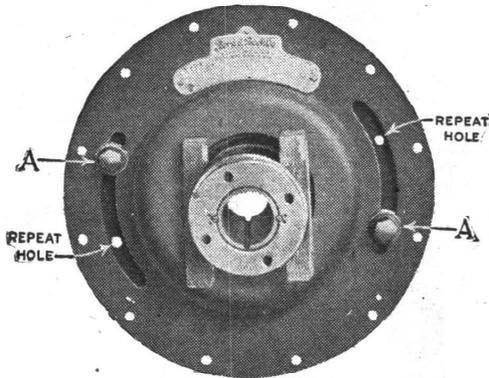
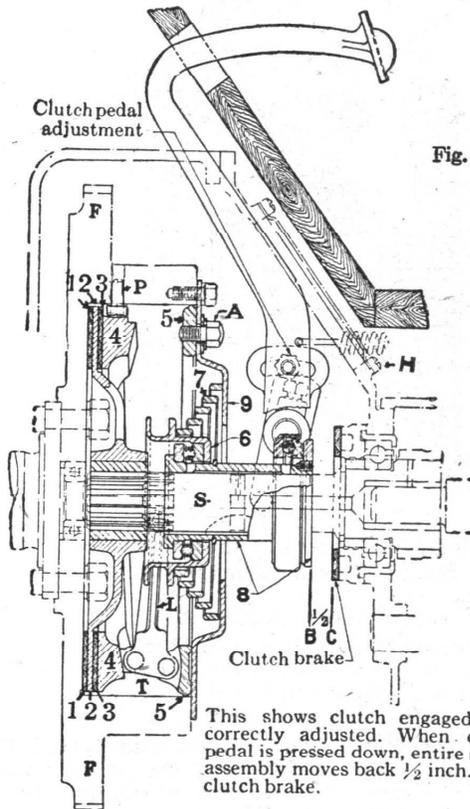
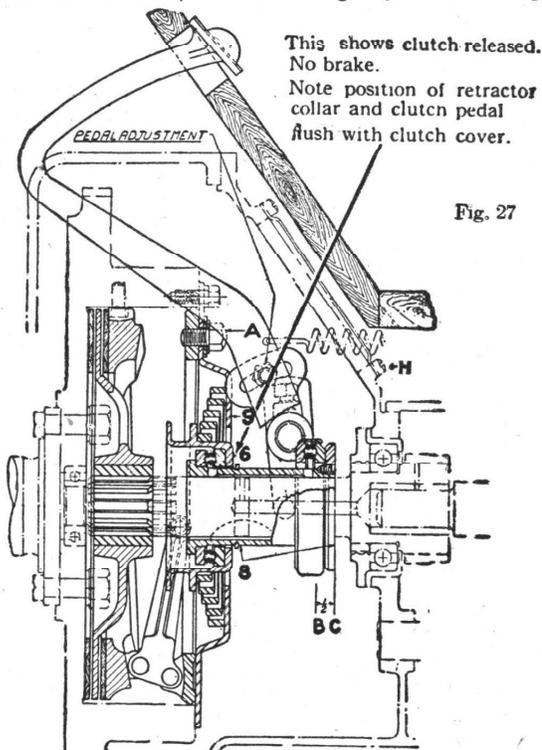
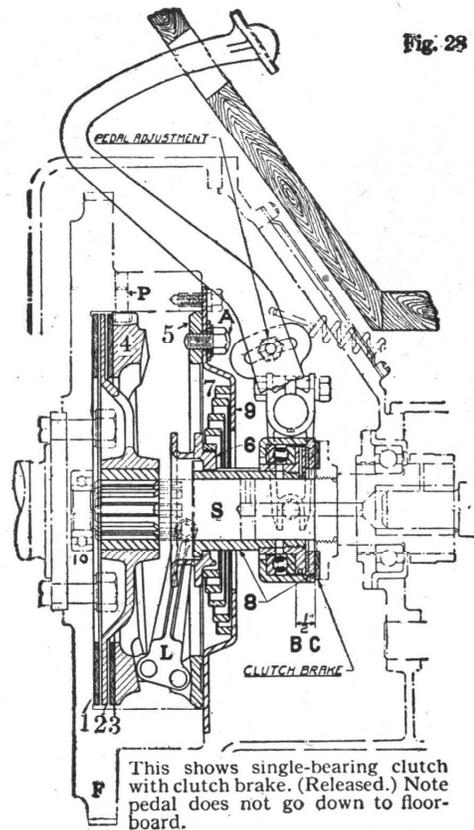

Fig. 25. View showing adjusting bolts (A) and slots.
Fig. 26
Fig. 27
Fig. 28
This clutch is termed a "single-plate clutch" because a single dry disk or plate (2) (Fig. 23) is locked to rotate with the flywheel by gradual pressure between two asbestos facings, or rings (1) and (3), thus driving the clutch shaft (S) (Fig. 26) that carries power to the transmission.
In two-bearing clutches¹ (Figs. 26, 27), all of the clutch except the driven plate (2), facings (1, 3), sleeve (8), and shaft (S), rotate at all times with the flywheel.² The sleeve (8) is keyed to shaft (S).
In single-bearing clutches¹ (Figs. 28, 29, 30) the sleeve (8) is not keyed to the shaft (S), and rotates with the flywheel.
Fig. 23. Parts of the Borg & Beck dry-plate clutch. (F) represents the flywheel ready for the clutch parts, which are shown disassembled in the order in which they are to be assembled. Note that inside of the flywheel the dowel pins that carry the thrust ring (4) are shown projecting (see also (P) Fig. 26.) The Borg & Beck Co., Chicago, are the manufacturers.
- (1) Friction ring, a duplicate of No. 3. These rings take all the clutch wear.
- (2) Friction disk, or dry plate, keyed to the shaft by 10 splines.
- (3) Friction ring; copper reinforced woven asbestos.
- (4) Thrust ring; note the inclined face toward the center, and adjustment inclines.
- (5) Mounting ring; fastens to the cover with adjustment bolts; it carries the bell-crank levers.
- (6) Retractor collar; the ends of the bell cranks engage in slots
- (7) Spring is compressed between cover (9) and the retractor collar; it operates the bell-crank levers.
- (8) Sleeve carries retractor collar; note the thrust bearings.
- (9) Clutch cover bolts to the flywheel; note the adjustment bolts in the slots which are shown as (A) in Fig. 25.
The friction surface of the thrust ring (4) is a flat polished surface. The opposite face is a tripple cam surface against which pressure is applied (see Fig. 24). It is inclined radially to take the wedge action of the thrust shoes, and the three cam surfaces on the rear face provide adjustment. Three equally spaced dowel pins (P) (Fig. 26) drive the thrust ring (4) with the flywheel. It is mounted freely, however, to permit a slight forward and back movement as the pressure is applied or released.
The adjustment or mounting ring (5) carries three bell-crank levers (L) (Fig. 26) which transmit the spring pressure. Two slots are provided in the clutch cover (Fig. 25) that allow adjustment of this ring. It is bolted to inside of cover by the two adjusting screws (A). It should be readily understood that the pressure shoes come in contact with a thicker section of the thrust ring (4), or higher on the cams, when they are moved to the right, or clockwise, into a new position. This compensates for wear on the asbestos facings (1 and 3).
Refer to all illustrations (Figs. 26 to 30); (A), adjustment bolts; (B), correct engaged position; (C) correct released position.
The released position of the forward end of the sleeve assembly is not affected by wear or clutch adjustment, and, when correctly set, is always the same distance from face of flywheel. There are several ways of measuring this position, but the easiest way is to remove hand-hole plate (by removing screws H, Fig. 27) and observe position of retractor collar (6), as shown in Fig. 27.
1. Loosen both adjustment bolts (see Fig. 25). As both bolts are screwed into the same mounting ring (Fig. 24), moving one also moves the other.
2. Hold clutch pedal down. Move bolts (A) to the right, or clockwise, which tightens the clutch.
3. While the pedal is down, note position of retractor collar (6). The rear face of it should be about flush with the face of clutch cover (9) (see Fig. 27). If it is inside the cover, the pedal adjust-
¹ The type of clutch can be found on name plate located at front of clutch (see Fig. 25).
The "two-bearing clutch" refers to the two ball bearings, one at each end of clutch sleeve (Figs. 26, 27). The "single-bearing clutch" refers to the one bearing shown at right end of clutch sleeve only in Figs. 28, 29, 30.
4. Let in clutch and note the distance that the sleeve travels. If more than $\frac{1}{2}$ inch, throw out clutch and move bolt (A) to right. If less than $\frac{1}{2}$ inch, move bolt (A) to left. After $\frac{1}{2}$ inch travel has been obtained, tighten both bolts (A). This completes clutch adjustment. When bolts (A) reach the right ends of the cover clots (Fig. 25), due to repeated adjustment, remove them and screw into the repeat holes which have been exposed at opposite ends of slots, thus doubling adjustment range.
The foregoing describes the manner of adjusting the clutch pedal where no clutch brake is used, allowing the pedal to be pressed down until it touches the floor-board (see Fig. 27).
Where a clutch brake is used, it is located at (C) position, and pedal adjustment should be set so that sleeve makes contact with brake before pedal touches the floor-board (see Fig. 28).
To adjust two-bearing type FGX: All have clutch brakes. Adjust pedal as shown in Fig. 28, and adjust clutch to allow $\frac{1}{2}$ inch travel of sleeve from engaged position (B) to brake (C).
To adjust two-bearing heavy duty types 13FX, FJX and single-bearing heavy duty type FJS: These have three adjustment bolts instead of two, and all have clutch brakes. Adjust pedal as shown in Fig. 28, and adjust clutch to allow a little more than $\frac{1}{2}$ inch but not more than $\frac{5}{8}$ inch travel of sleeve from engaged position (B) to brake (C).
To adjust single-bearing types DS, G, G-1, GS, SGS, RGS, J, JS: These types all have clutch brakes. Adjust pedal as shown in Fig. 28, and adjust clutch to allow 1/2 inch travel of sleeve from engaged position (B) to brake (C) (see Fig. 30).
X signifies a two-bearing clutch with the sleeve keyed to shaft, as in Fig. 26.
Noise may develop at the three points on the thrust ring where it is driven by the dowel pins (P) (Fig. 26) in the flywheel.